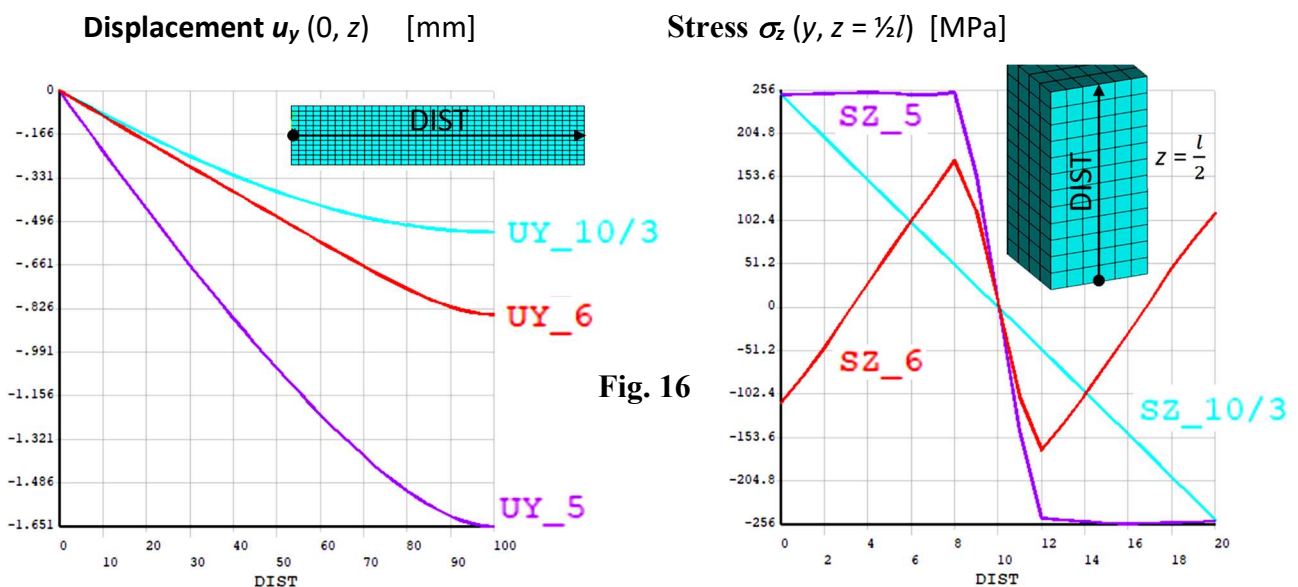

Fig. 16
13. Plot graphs of the displacement  $U_y$  and stress component  $S_z$  at the end of each load step as a function of the distance and save the graphs as images (*Main Menu>General Postproc>Path Operations>...*) (Fig. 16).